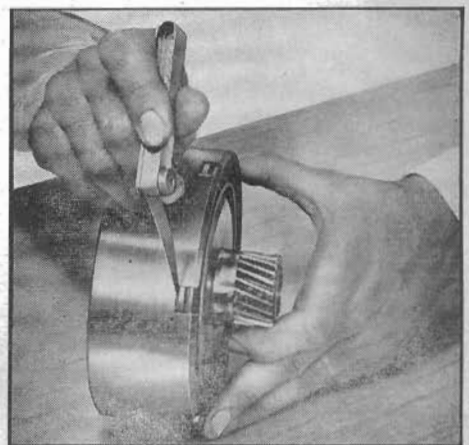

Fig. 26 Checking end play of clutch flange. 1950-59
7. Check end play with feeler gauge between clutch flange drive lug and drive slot in drum, Fig. 26. Maximum allowable end play is .013". Retainer rings are available in three thicknesses (.055", .064" and .073") to control end play of sun gear and clutch flange in drum.